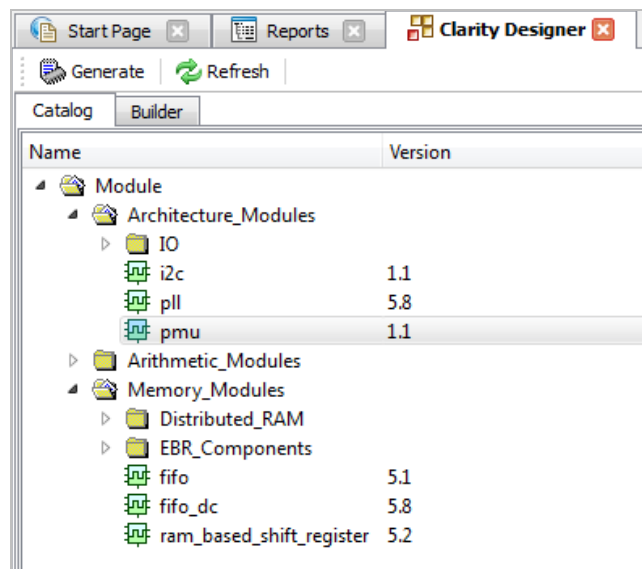

Figure 2.7. Clarity Designer PMU Selection
2. Provide the name of the project and select the HDL language of choice. The window appears as Figure 2.7.
3. Select the module you wish to generate. In this case, select **pmu**, under **Architecture_Modules**, as shown in Figure 2.7.